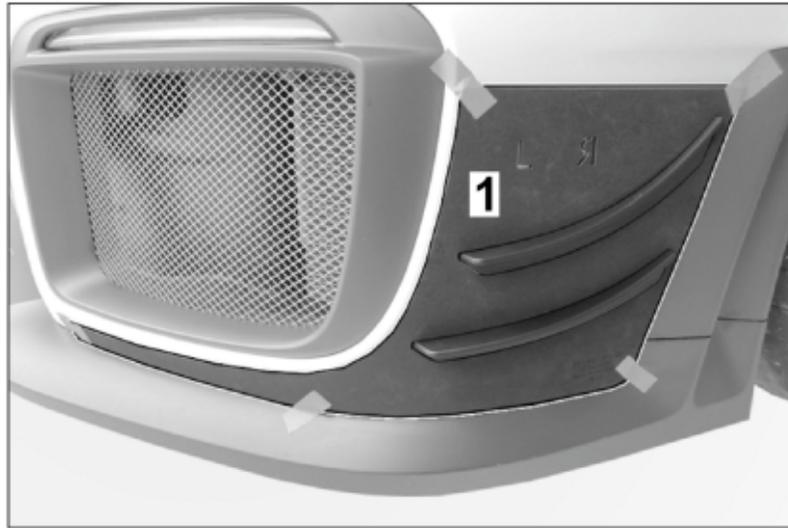

Figure 29
2. – Attach the template ⇒ *Figure 29 -1-* by means of adhesive strips on the side surface of the front apron. Pay attention to the correct orientation of the template! Place the template on the reference edge below (transition to the front lip) and on the rear reference line (edge of the air outlet).